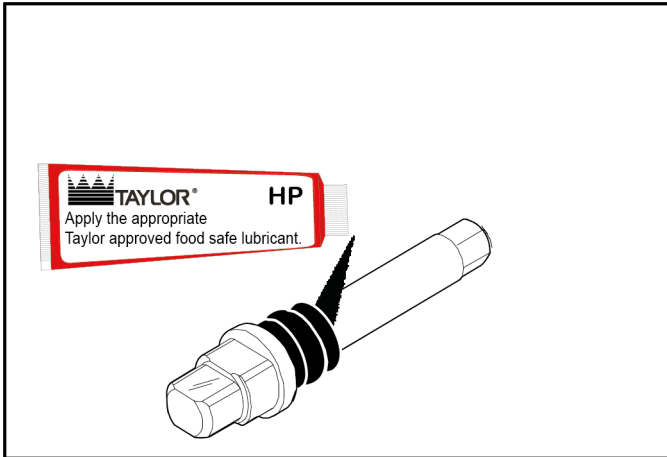

Figure 6-4
3. Heavily lubricate the inside portion of the driveshaft seal and also lubricate the flat end of the seal that comes in contact with the rear shell bearing. (See Figure 6-4.)